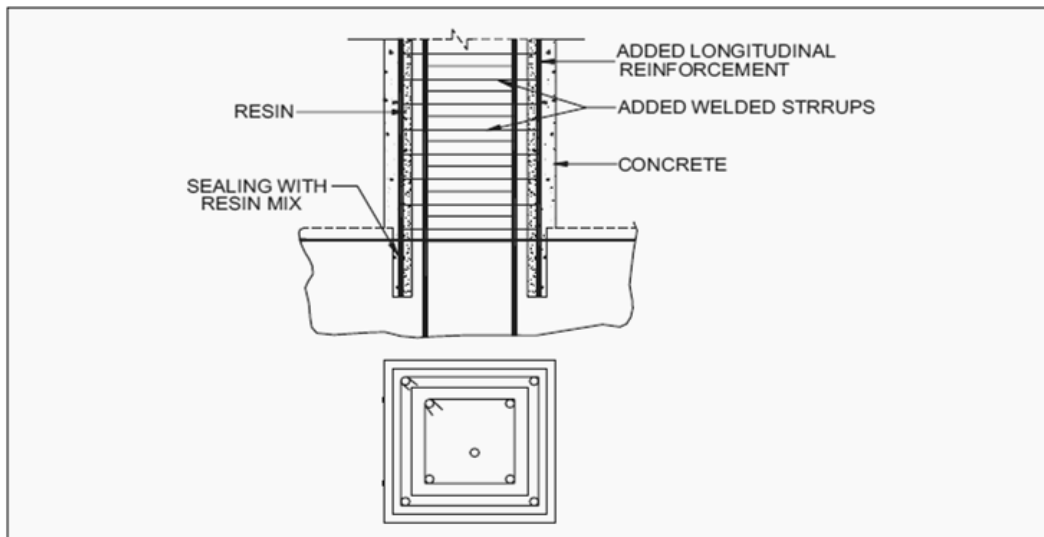

Fig 6.8(a) Column Strengthening Concrete Jacket
- ✓ Plate bonding and RC jacketing are the common methods of strengthening RCC structures (detail procedure and stages given in Fig 6.8). The cost difference between the two methods is not significant.